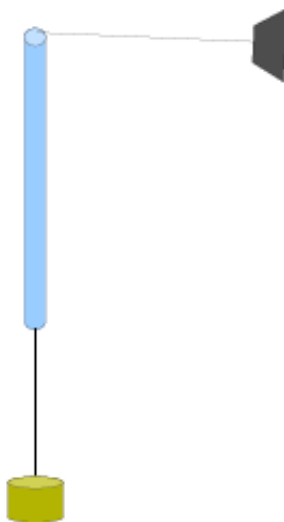

Figure 2: Experimental set-up
- 4 To achieve uniform circular motion, hold the tube vertically with the mass hanger at the bottom and spin the stopper around in a circular motion (*see Figure 2*).